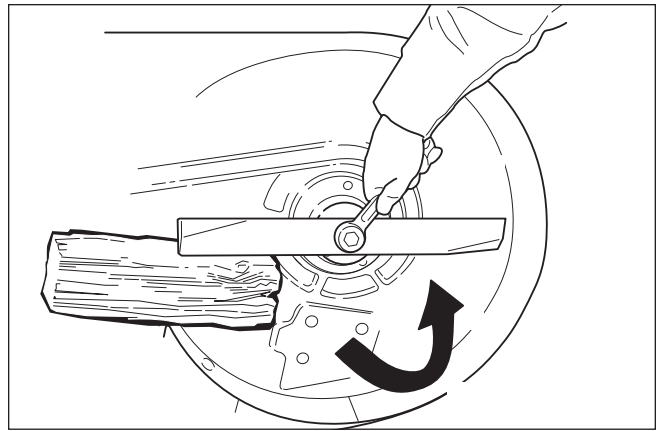

Figure 18. Loosening the Mower Blade for Removal
1. See Figure 18 To remove the mower blade, wedge a wooden block between the mower blade and the mower deck housing to keep the mower blade from turning, then remove the mower blade and the mower blade retaining hardware.
- A.) Has more than .5" (12,7 mm) of the mower blade metal removed from previous sharpening or wear (D, Figure 18).